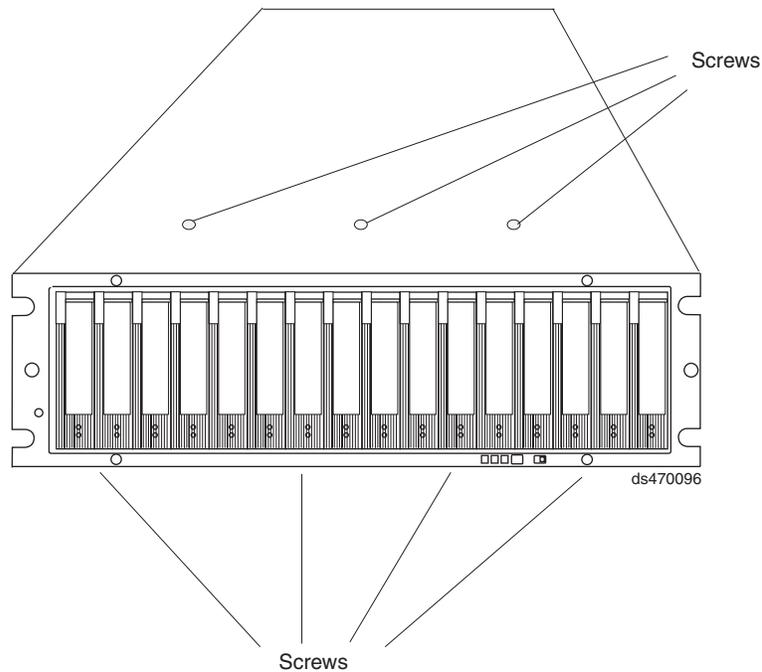

Figure 40. Screws holding the top and bottom sides of the chassis to the cage frame
13. Pull the chassis outward from the front of the rack and remove from the rack. Place it on a level surface. Look for a row of three Phillips screws on top of the chassis and a row of four Phillips screws on the bottom of the chassis, as shown in Figure 40. Remove the seven Phillips screws using the #1 Phillips screwdriver. Save these screws.
18. Install the seven Phillips screws (three on top and four on bottom) that hold the front cage frame to the EXP395 chassis that you removed in step 13 on page 89, as shown in Figure 40 on page 89.